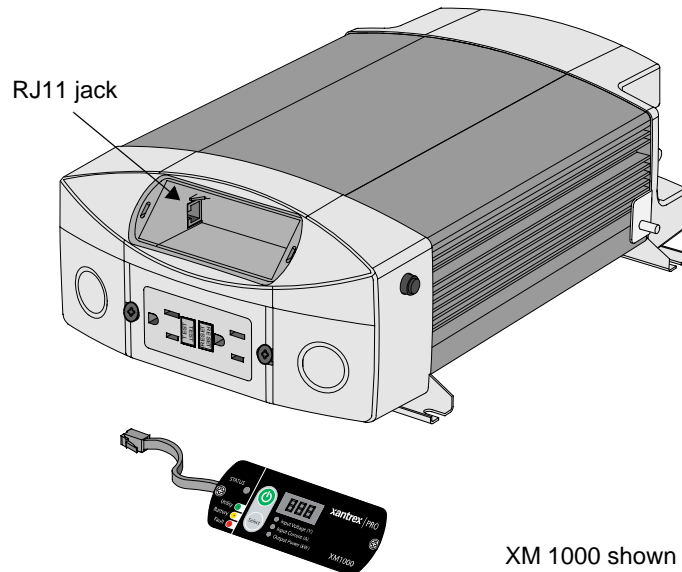

Figure 3-6 XM Series Inverter with Remote Panel Removed
4. Remove the remote panel and unplug the remote panel RJ11 cord from the jack (see Figure 3-6).